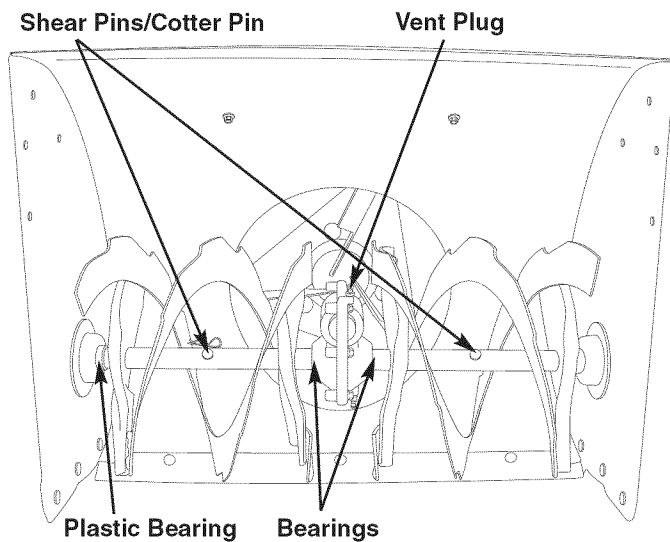

Figure 15
Auger Bearings: Every season lubricate the auger bearings and the bearings on the side of the frame with light oil. (see Fig. 15)
Auger Shaft: At a minimum, once a season remove the shear pins on the auger shaft. Spray lubricant inside the shaft and lubricate the plastic auger bearings. (see Fig.15)
- The augers are secured to the spiral shaft with two shear pins and cotter pins. If you hit a hard foreign object or ice jam, the snow thrower is designed so that the pins may shear off and the auger will not turn. This is normal. (see Fig. 15)